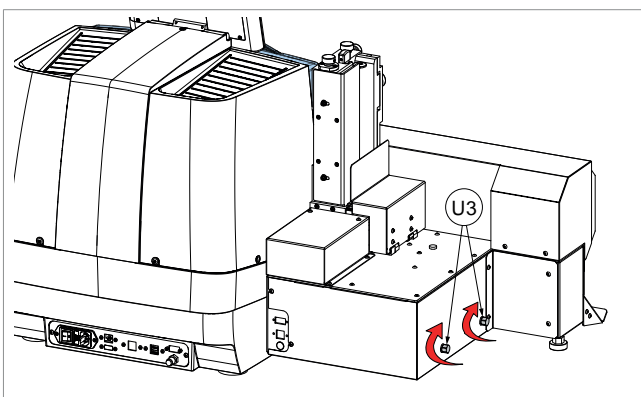

Fig. 33
- 3) Screw the hexagonal head of the pins (U3) to lock the feeder onto the machine (Fig. 33).